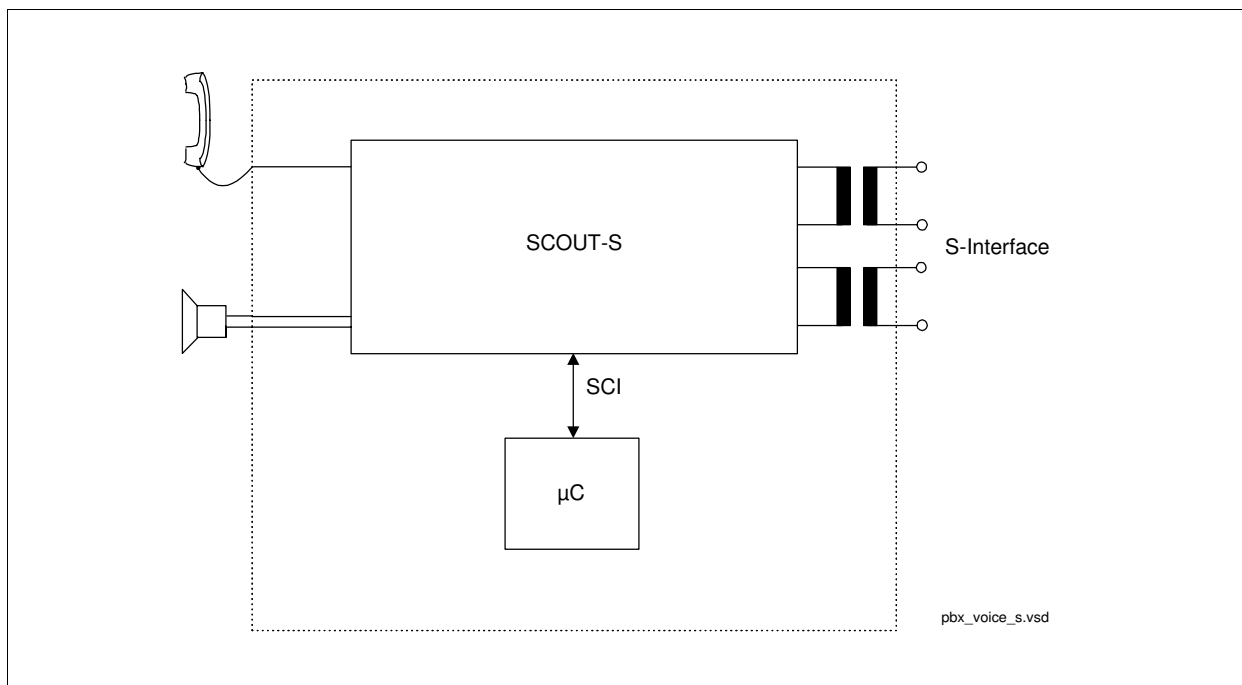

Figure 3
- ISDN voice terminal (**Figure 3**)